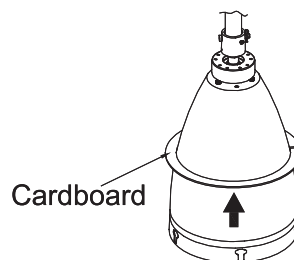

Fig. 7
**Step 3.** Remove the cardboard from the motor body. ( Fig. 7)